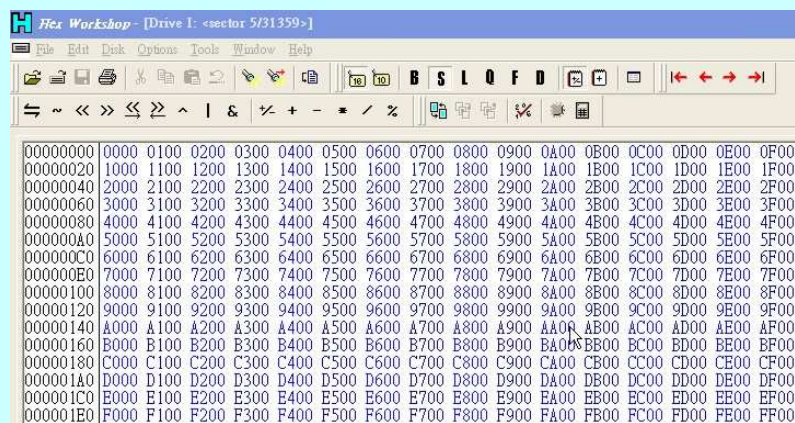

Figure 9.4. The content of the CF card after testing procedure
9. Figure 9.4 shows the content of the CF card viewed by Hex Workshop.